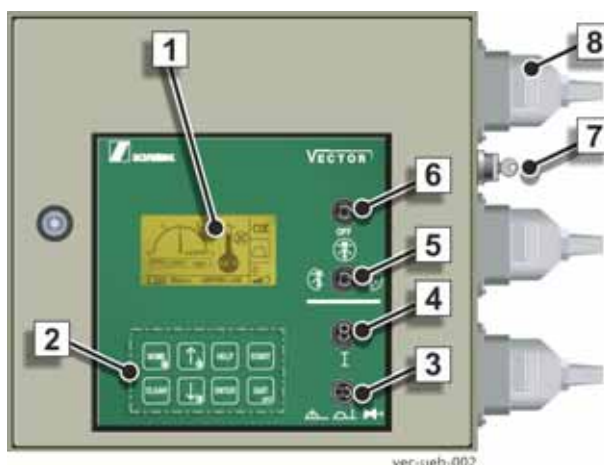

Fig. 91 Vector control cabinet
The messages are shown on the display of the VECTOR control system (1) (**Fig. 91**) and, in abbreviated form, on the display of the remote control unit, see “**Remote control**” on page 545.